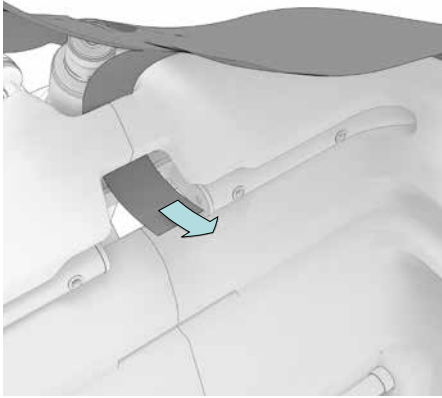
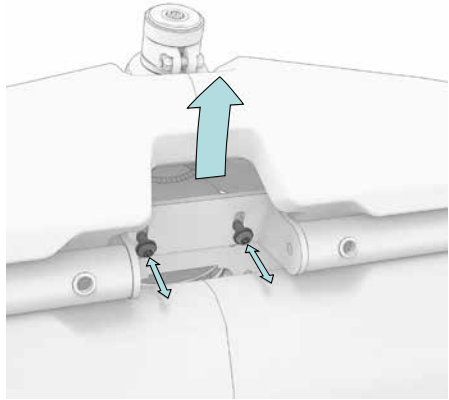

Fig. 6a
Fig. 6b
In the front area of the box, the Velcro tape is routed between the frame and the box (Fig. 6a). For this it may be necessary to loosen the screws of the box fastening (tool: Allen key 5 mm) and lift the box slightly (Fig. 6b). Then position the box and tighten the screws with 5-8 Nm.